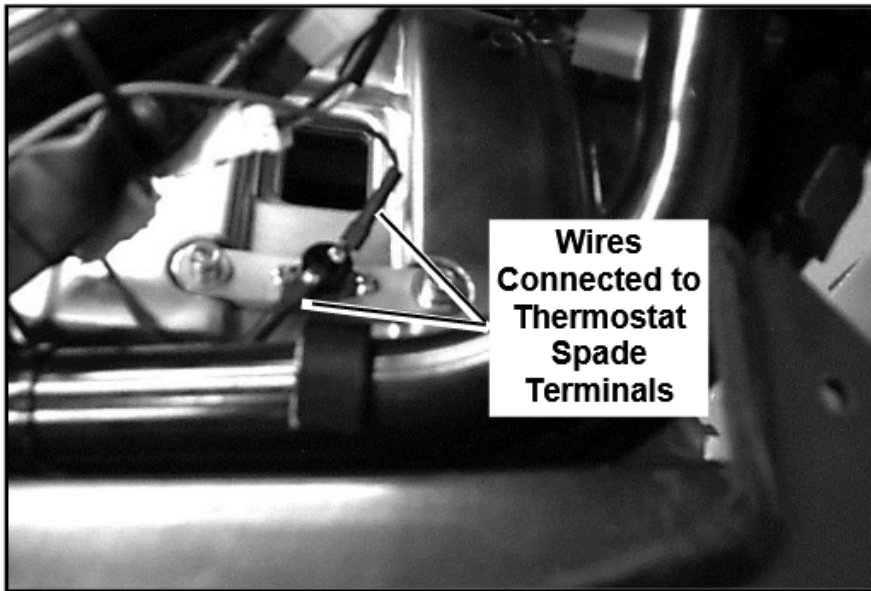

**Figure 7. Install Cooling Fan Harness**
13. See Figure 7. Remove nut from silver (Axillary) post of main circuit breaker. Place ring terminal (from red wire) of harness (part number Y0051.K) on silver post, then re-install nut.